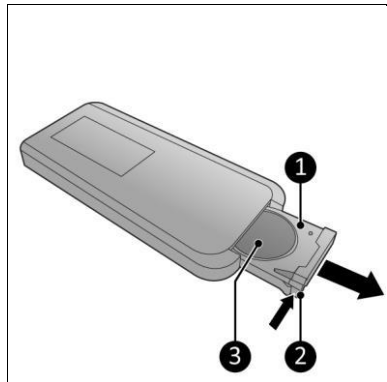

Figure 8
1. Press on the lip (Figure 8, pos. 2) and remove the slot (Figure 8).
2. Remove the battery (if present) (Figure 8, pos. 3).